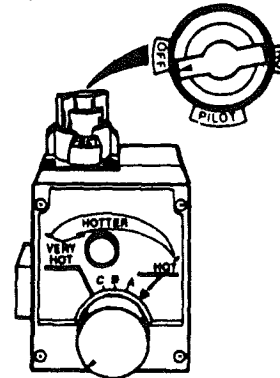
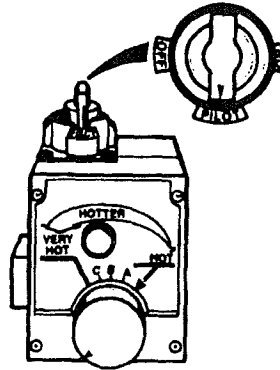
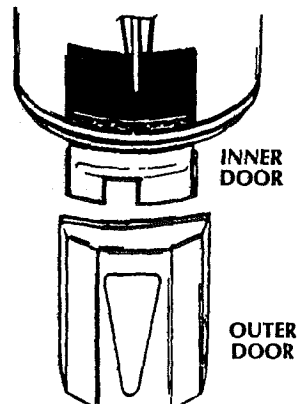

Figure 6
Figure 7
Figure 9
4. Turn gas control knob clockwise (↻) to "OFF" position. Knob cannot be turned from "PILOT" to "OFF" unless knob is depressed slightly. **DO NOT FORCE.** (Figure 6, page 15)
5. Wait five (5) minutes to clear out any gas. If you then smell gas, STOP! Follow "B" in the safety information above on this label. If you don't smell gas, go to the next step.
6. Remove (or open) inner door located below the gas control unit. (Figure 9, page 15)
8. If you don't smell gas, turn knob on gas control counter clockwise (↺) to "PILOT" position. (Figure 7, page 15)
9. Push in control knob all the way and hold down. Immediately light the pilot with a match. Continue to hold control knob in for about one (1) minute after the pilot is lit. Release knob and it will pop back up. Pilot should remain lit. If it goes out, repeat steps 3 through 8.
- If the pilot will not stay lit after several tries, depress and turn the gas control knob clockwise (↻) to "OFF" and call your service technician or gas supplier. (Figure 6, page 15)
10. Replace (or close) inner door. Replace outer door if door does not cover gas control on/off knob or temperature adjustment knob. (Figure 9, page 15)
2. Turn gas control knob clockwise (↻) to "OFF" position. Knob cannot be turned from "PILOT" to "OFF" unless knob is depressed slightly. **DO NOT FORCE.** (Figure 6, page 15)